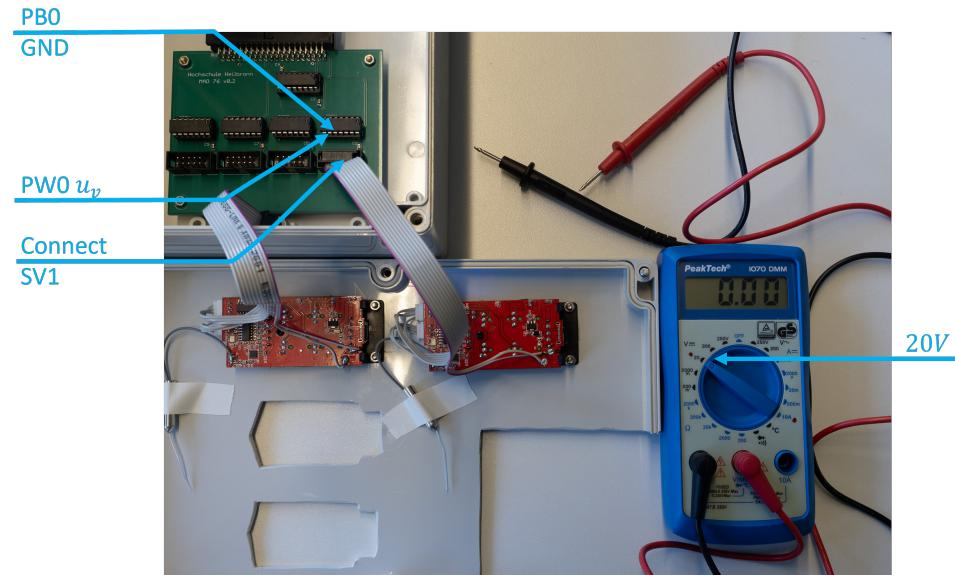

Figure 5: Exercise 2: Measure u_v with a multimeter
C.4.4.2 Measure the motor and steering signal voltages of the digital potis of RC 1 with a multimeter (see Figure 5)
- Check the voltages match to the expected voltages according to equation (7):